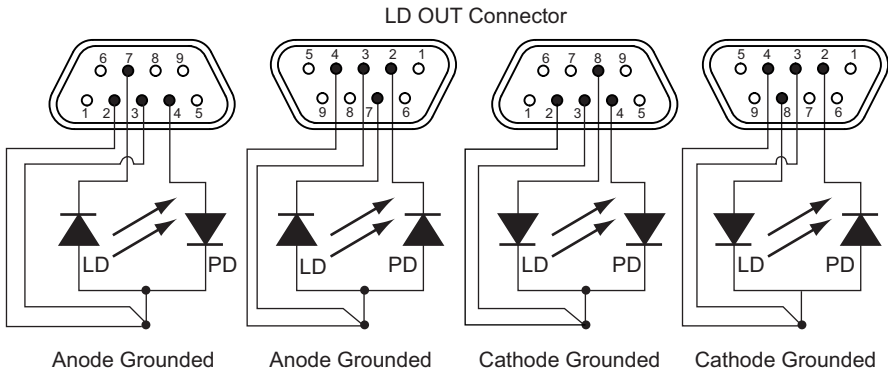

Fig. 3.4 Laser diode connections
For the lowest noise and highest level of protection, the case of the laser diode package should always be connected to the electrical system ground. Since normally the case will also be electrically connected to either the anode or the cathode of the laser diode, this results in two common configurations: anode grounded (AG) and cathode grounded (CG). This can be established from the laser diode data sheet and the device should be connected to the D-type connector on the TLD001 accordingly. Additionally, in most cases either the anode or the cathode of the internal photodiode (if there is one) is also connected to the case, resulting in four possible configurations, as shown in Fig. 3.4.